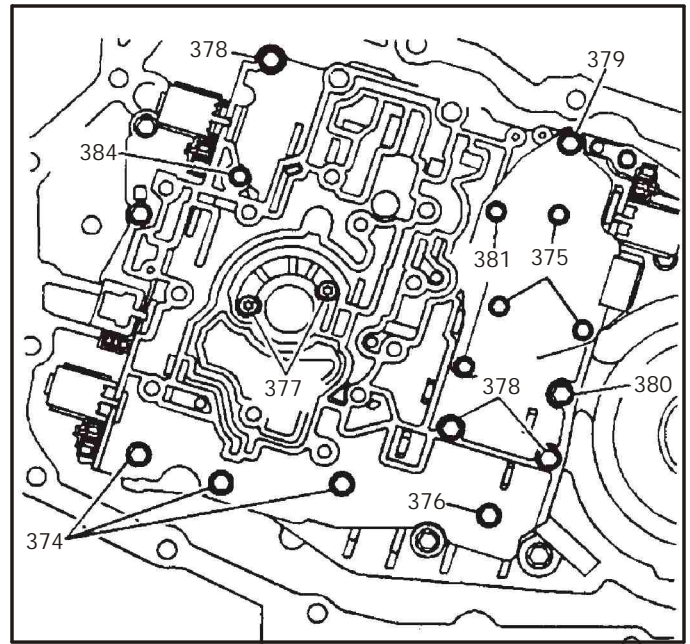

Figure 49
11. Remove the indicated valve body bolts that are shown in Figure 49.